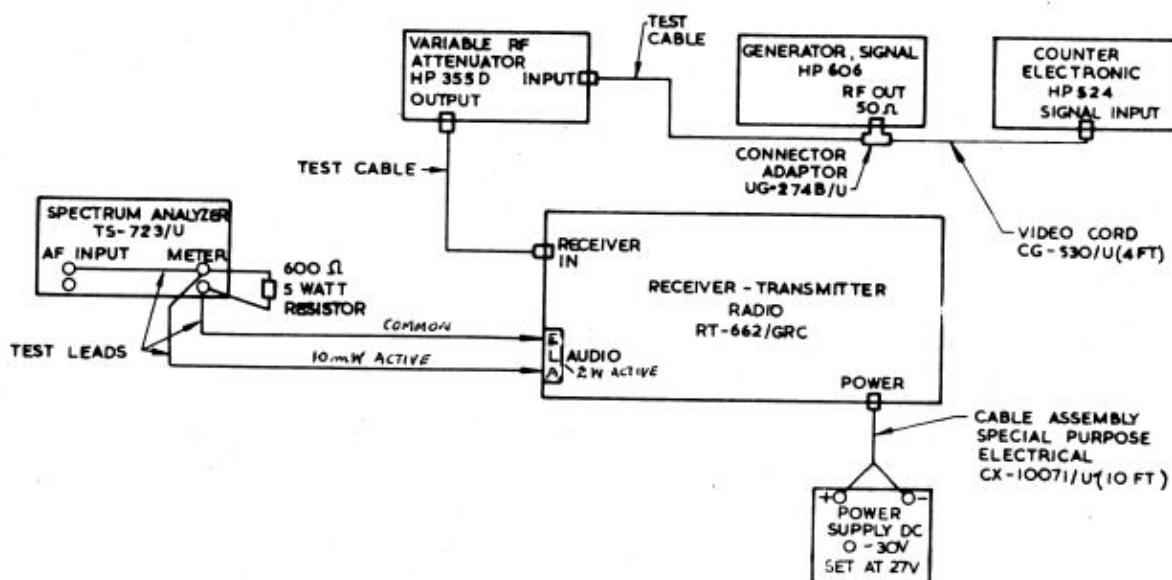

FIG 46 - AUDIO DISTORTION, AUDIO POWER OUTPUT AND OVERALL GAIN TESTS, CONNECTION DIAGRAM
a. Perform tests as in Serial 121. Connect the Distortion Analyser HP 332A (shunted by a 600 Ω 5 W resistor) across pins A and E of the RT-662 AUDIO output socket as shown in fig 46.